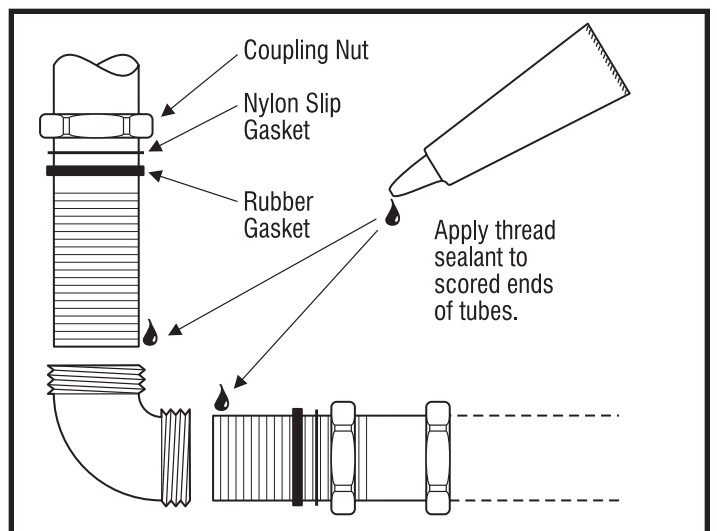

Figure 3
**Important: Before inserting the scored ends into the Elbow, apply several drops of thread sealant (supplied by Sloan) to the scored ends of the tubes (Figure 3). This sealant helps prevent separation under high-pressure conditions—DO NOT use any other pipe sealant or lubricant on this connection.**